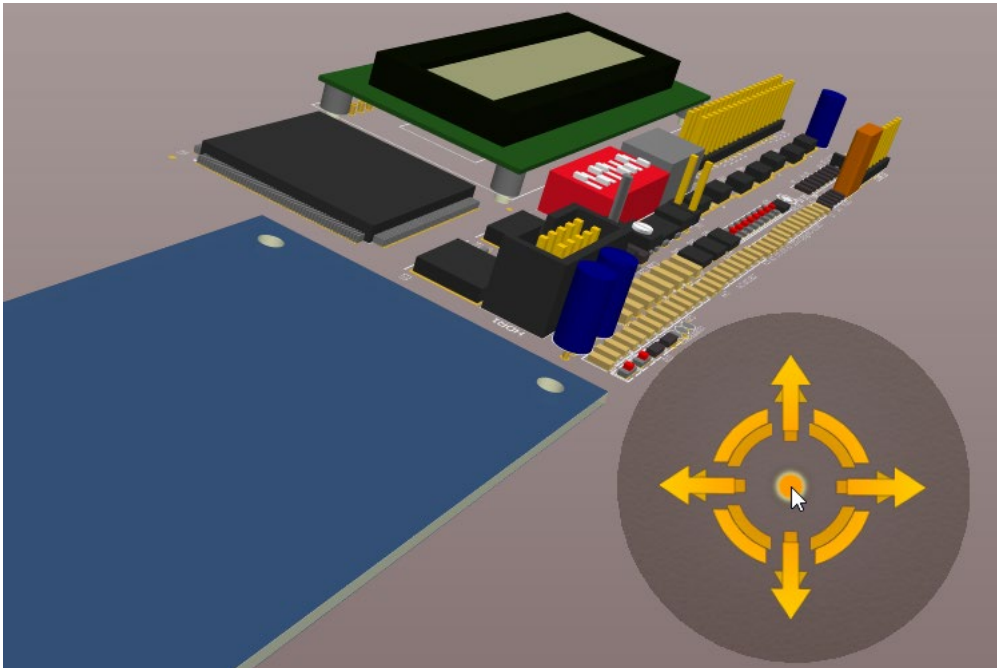

Figure 1. Navigation Orb used to navigate in 3 dimensions
6. Press and hold the **Shift** key. A golden Navigation ball will appear allowing us to move the board in 3D, Figure 1.